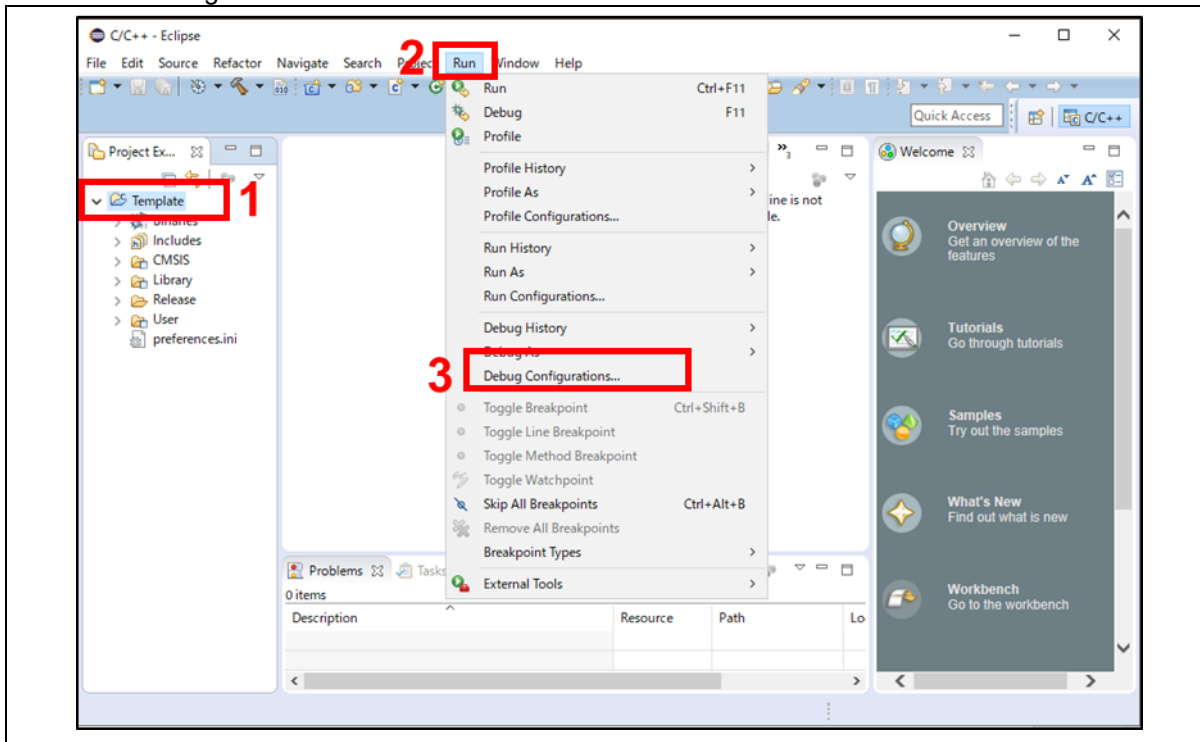
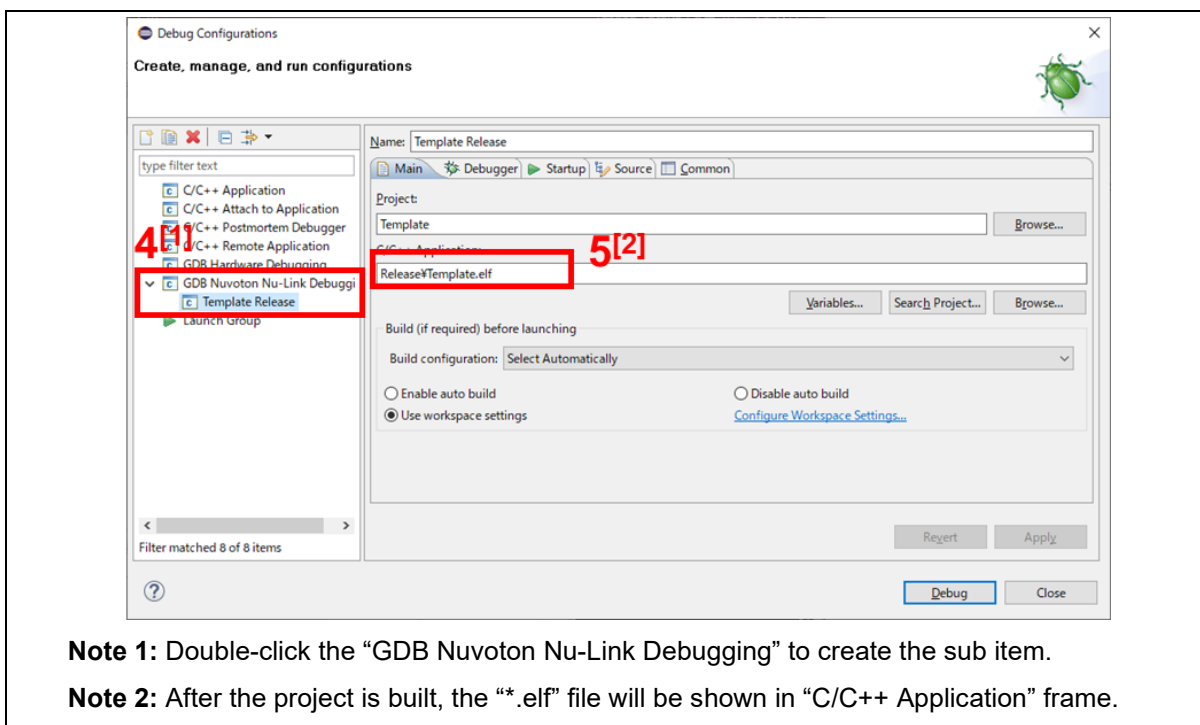
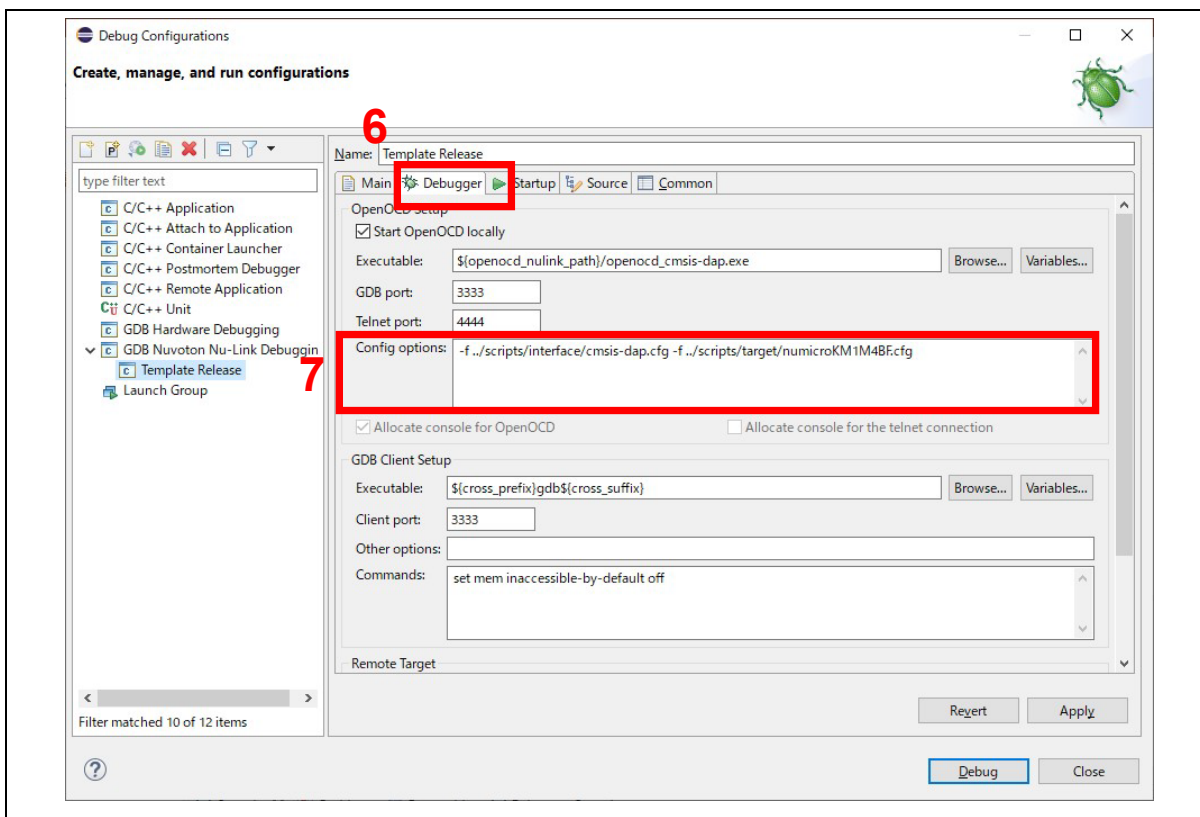
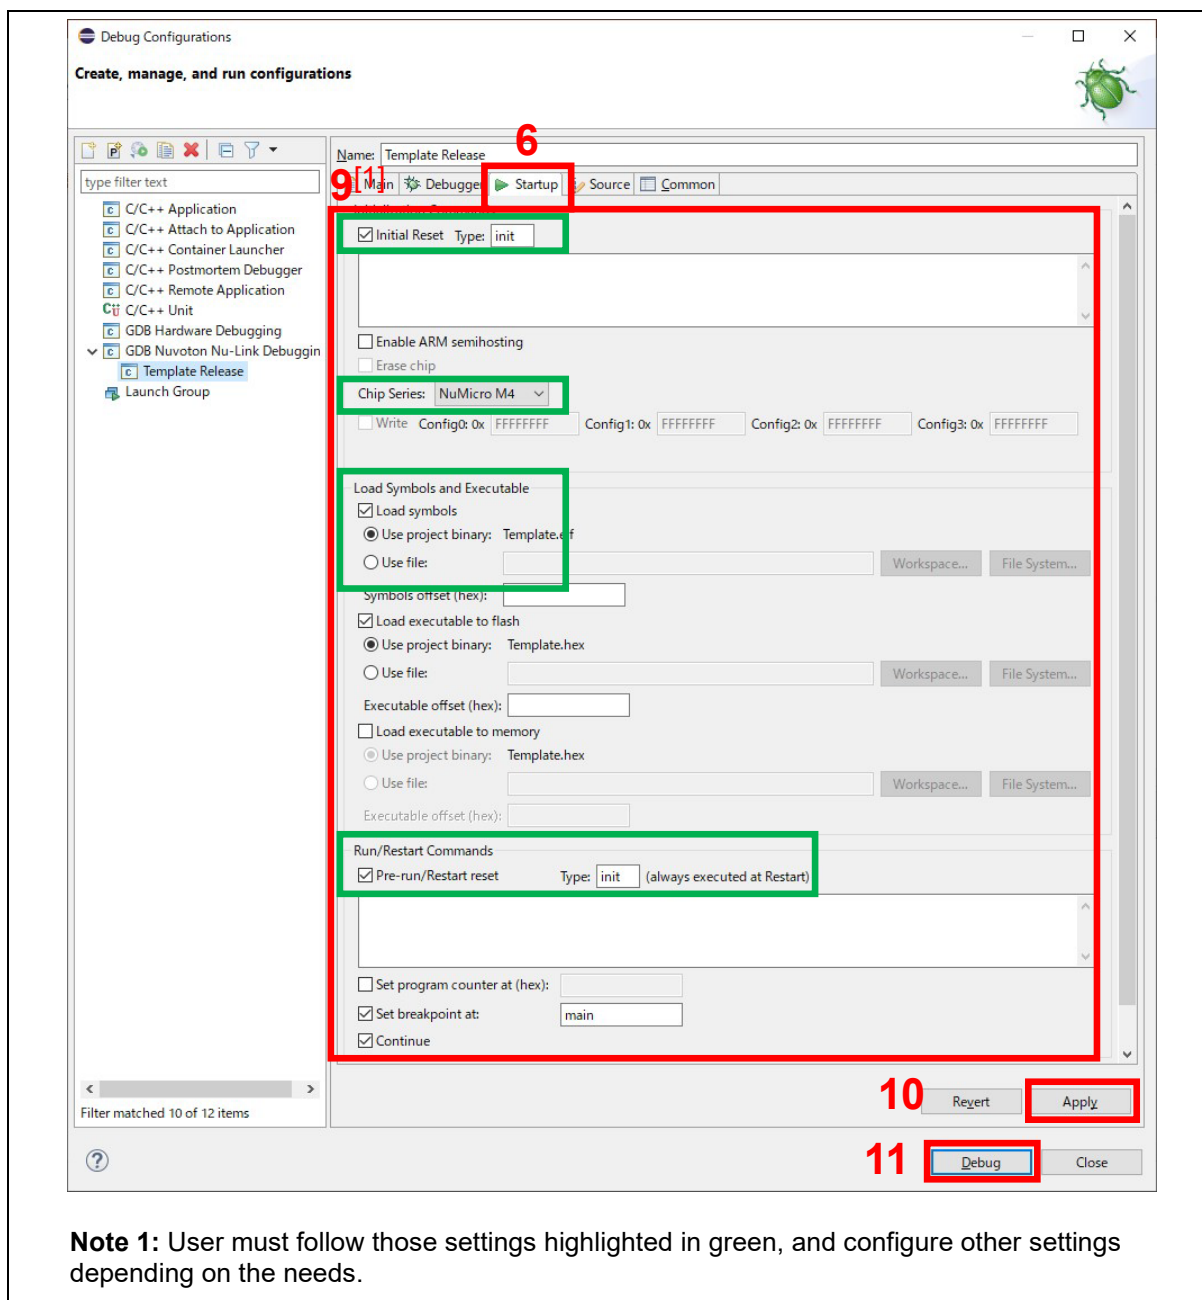

Figure 4-22 Open Debug Configuration
Figure 4-23 Main Tab Configuration
Figure 4-24 Debugger Tab Configuration
Figure 4-25 Startup Tab Configuration
5. After the project is built, click the “Template” project and set the “Debug Configuration” as shown in Figure 4-22. Follow the settings presented in Figure 4-23, Figure 4-24 and Figure 4-25 to enter debug mode.